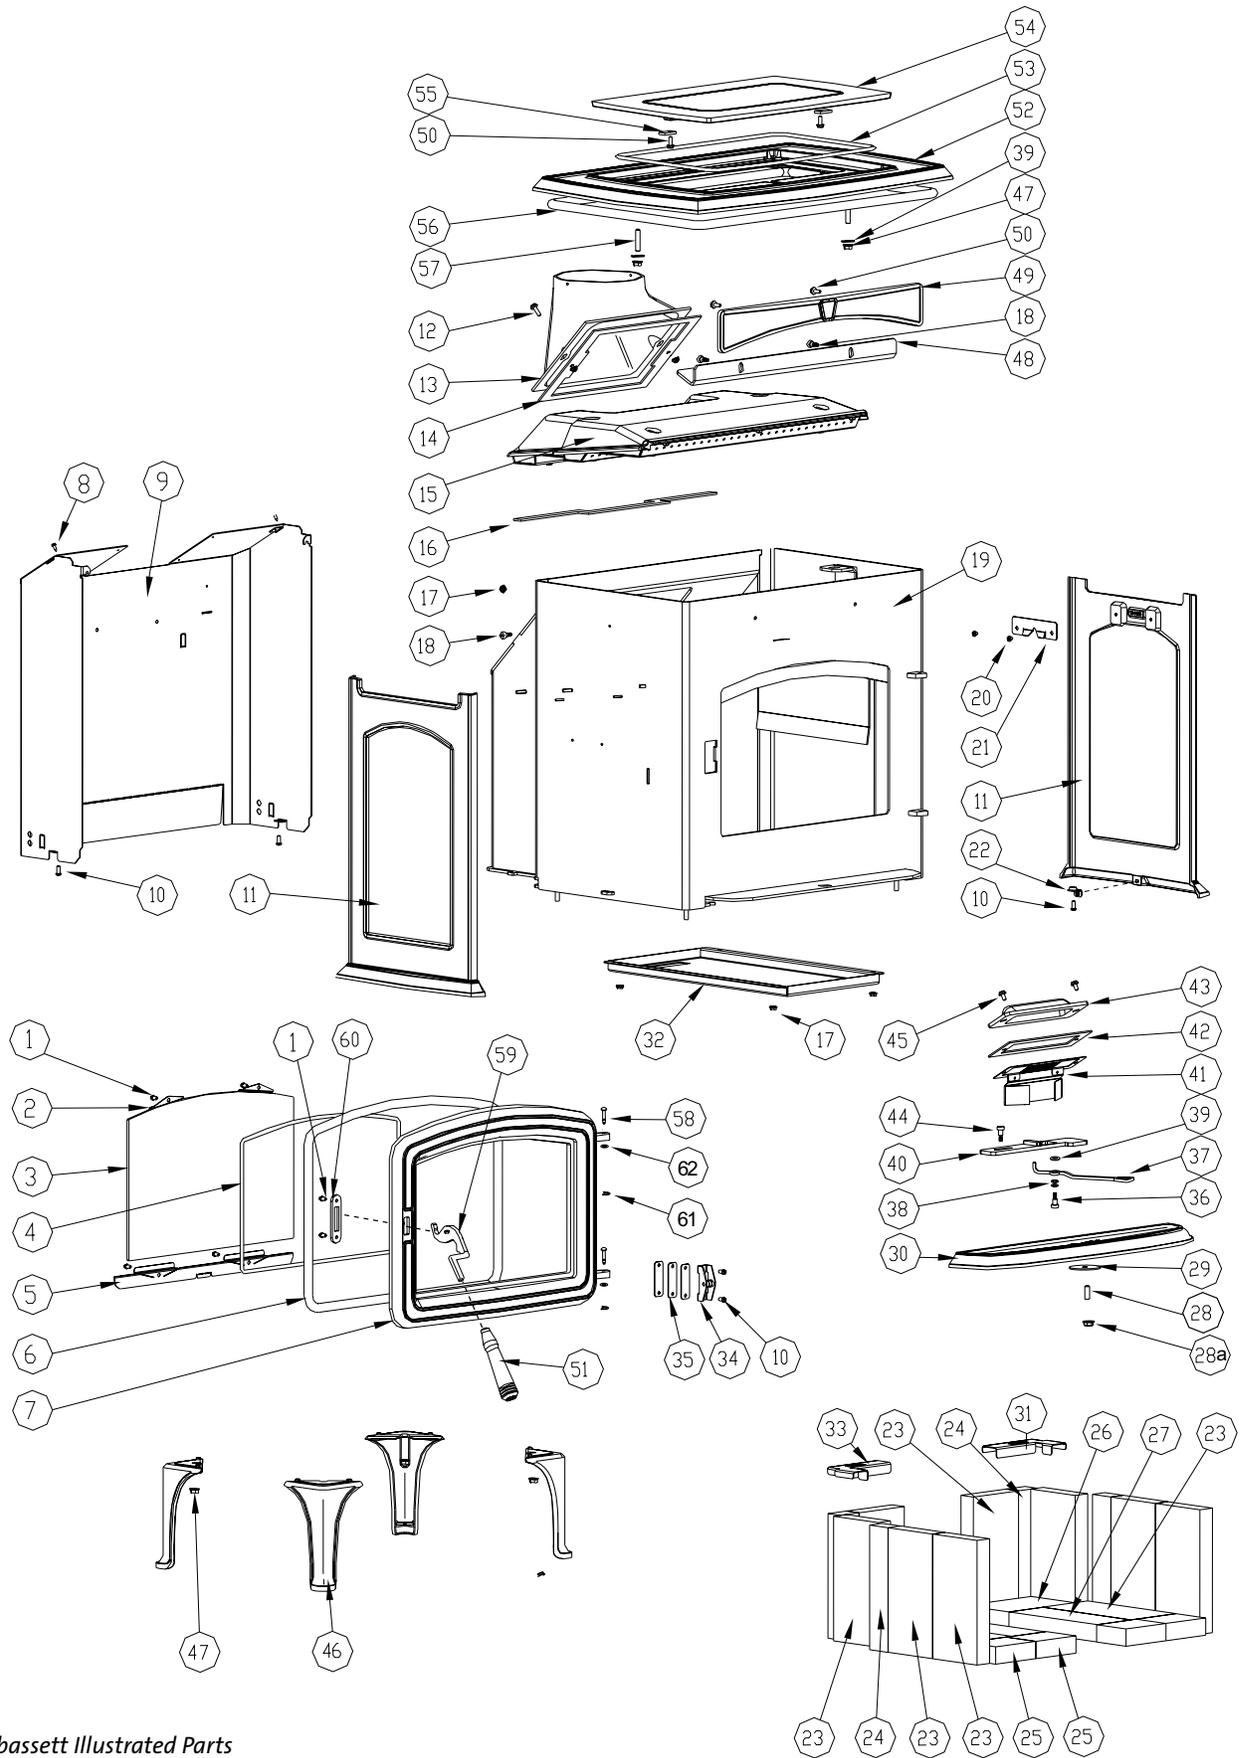

Figure 25.
- Replace any broken bricks. See fig. 25, page 24. **DO NOT OPERATE THE STOVE WITH BROKEN OR MISSING BRICKS.**
See fig. 25, page 24 and the parts listing on page 25 for the configuration and part number of any firebricks that require replacement. Order through your local Jøtul Authorized Dealer.
1. Use the 13 mm socket driver or wrench to remove the four nuts that secure the steel secondary air manifold to the stove bottom and remove the manifold (Fig. 25, #32).